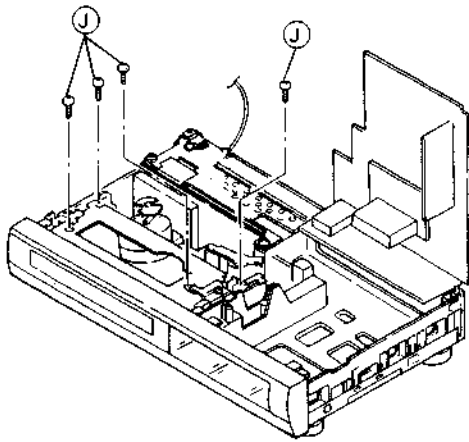

Fig. 1-1-5 Cassette housing(a)
2. Refer to Figs. 1-1-5 and 1-1-6.